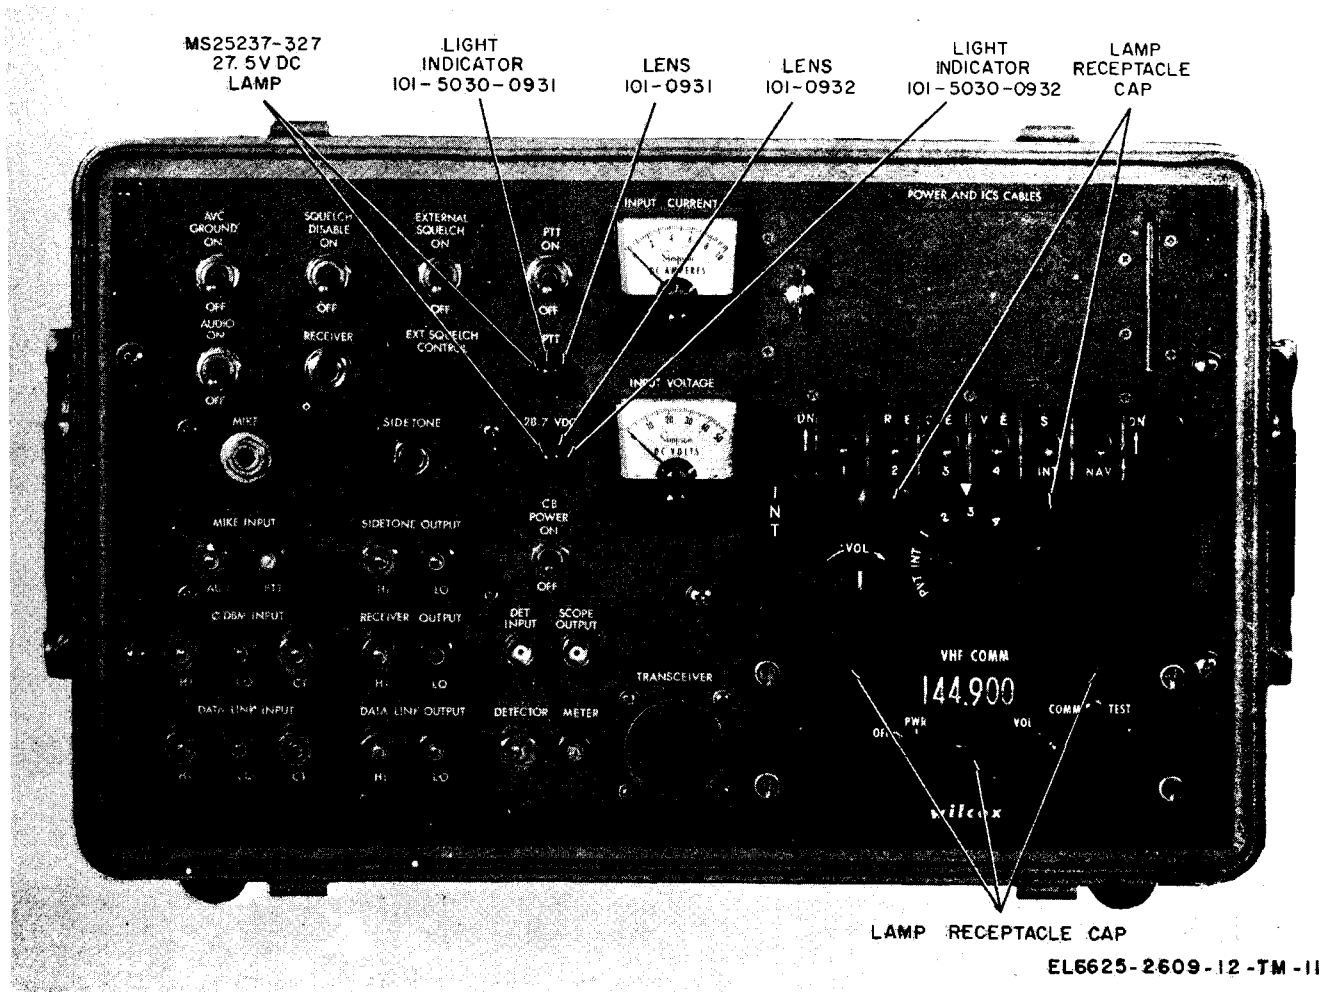

Figure 3-1. Test panel, indicator lamp locations.
a. Rotate lampholder (fig. 3-1) until it separates from the test panel.
a. Rotate lamp receptacle cap (fig. 3-1) counterclockwise and remove it from the front panel.